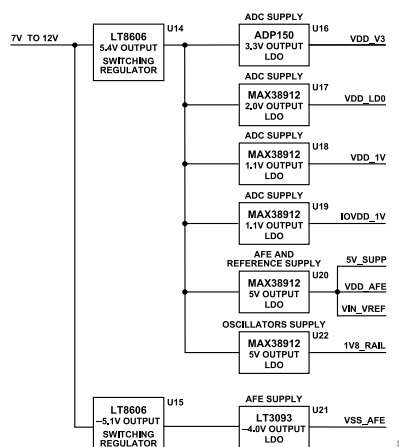

Figure 8. Power Circuitry Simplified Schematic
- ▶ On-board generated rails (default): The rails are taken in from the MAX38912 regulators (U18 and U19), as shown in Figure 8.
- ▶ On-board generated rail (default): The rail is supplied by an ADP150 LDO regulator (U16), as shown in Figure 8.